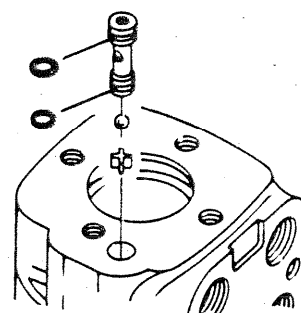

Figure 12A
- 5 Install set screw (not used on units with integral column, see Fig. 12A). Use a 5/16" allen wrench to torque set screw to 100 inch pounds. To prevent interference, make sure top of set screw is slightly below housing mounting surface.